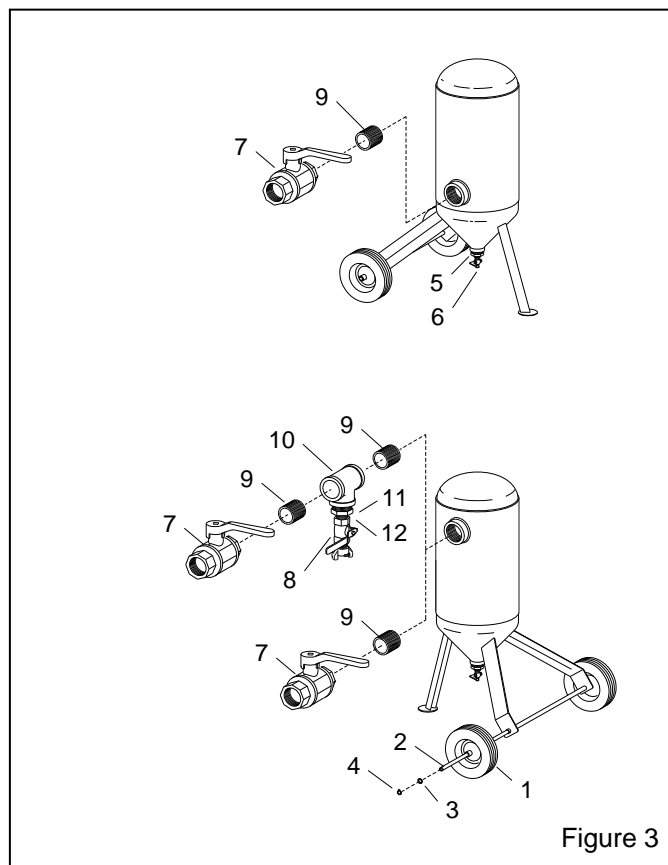

Figure 3
5.1 Coalescent Filter Assembly, Figure 3
5.1 Typical Optional Accessories, Figure 3 *